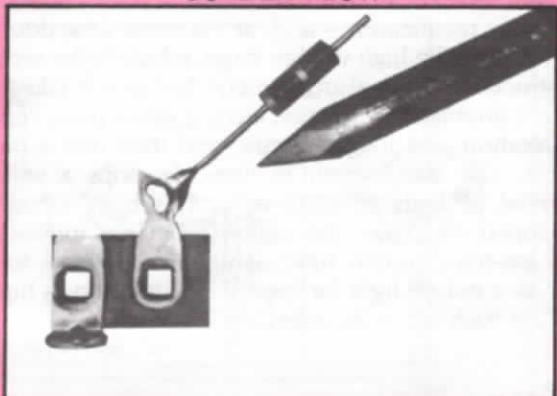

FIG. 8
10. Wait until the solder has cooled (solidified) before testing the connection. A properly soldered connection will have a good fillet contour and a smooth bright finish. (See Fig. 8.)